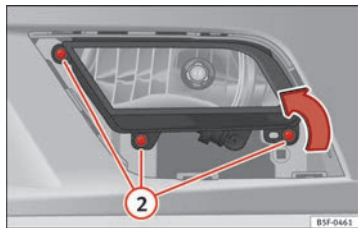

Fig. 192 Fog light.
- Remove the bolts (3x) ⇒ Fig. 192 ② to remove the fog light.